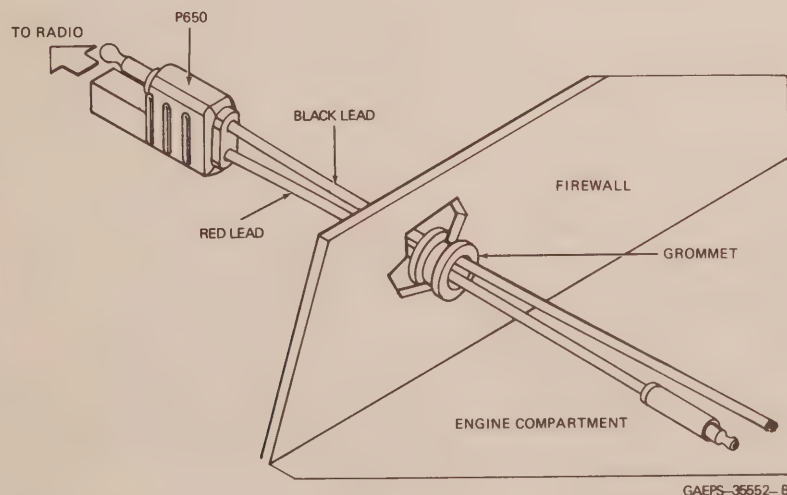

Figure 1. Power Cable Routing Into Engine Compartment
Step 4. From inside the vehicle feed the RED and BLACK leads (without lugs attached) through the access hole and into the engine compartment. Refer to Figure 1.